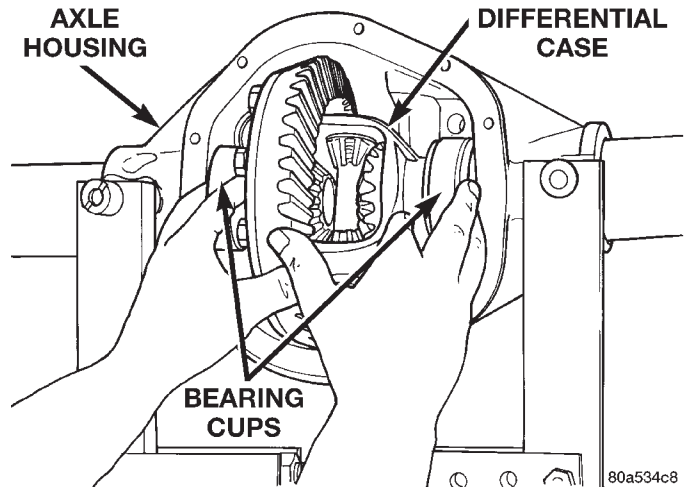

Fig. 35 Differential Case Removal
(10) Remove the dial indicator.
(11) While holding the differential case in position, remove the differential bearing cap bolts and caps.
(12) Remove the differential from the housing. Ensure that the differential bearing cups remain in position on the differential bearings (Fig. 35).